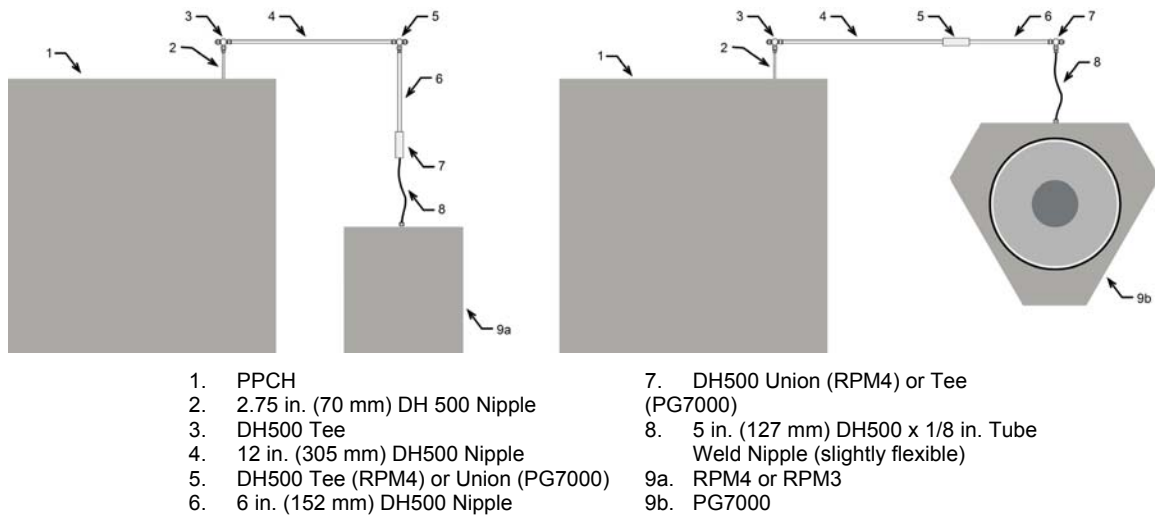

Figure 5. Connecting PPCH to an RPM4 or PG7302
- 1 Using tubing of appropriate pressure rating and a tee fitting, connect the RPM4 Q-RPT **TEST(+)** port to the PPCH **TEST** port (see Figure 5 for instructions on making this connection using the standard interconnection accessories supplied with the PPCH). The third leg of the tee is for the connection to the device or system under test.
- ❶ Using tubing of appropriate pressure rating and a tee fitting, connect the PG7302 **TEST** port to the PPCH **TEST** port (see Figure 5 for instructions on making this connection using the standard interconnections accessories supplied with the PPCH). The third leg of the tee is for the connection to the device or system under test.
- ❷ Using a standard pin-to-pin DB-9M to DB-9F RS232 cable, connect COM1 of the PPCH to COM3 of the PG7302.
- ❸ See the PG7000 Operation and Maintenance Manual for information on operating the PG7302 with an automated pressure controlling device.